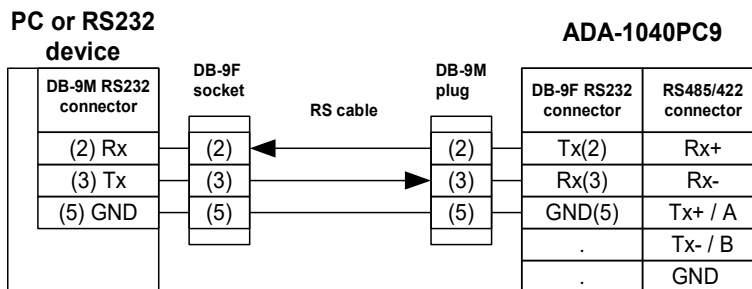

Fig. 4. ADA-1040PC9 connection to PC or RS232 device by the use of the cable.
- RS232 computer port, should be made a cable according to diagram on Fig.4,